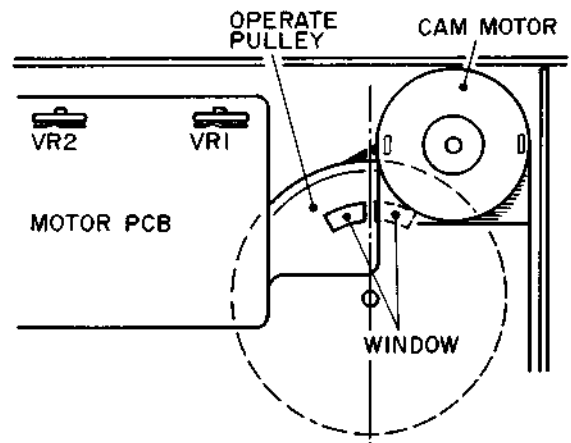

Fig. 7-2 Position of Operate Pulley in STOP Mode
- b. Adjust VR1 slightly so that a center line between windows of the operate pulley will face directly above during STOP Mode. (Fig. 7-2)